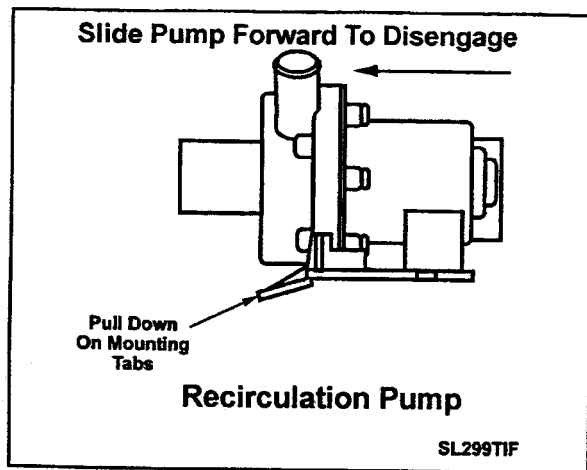

Figure 2-27
- To remove the pump from the mounting bracket, pull down on the mounting tabs and slide the pump off the mounting bracket (*Figure 2-27*).